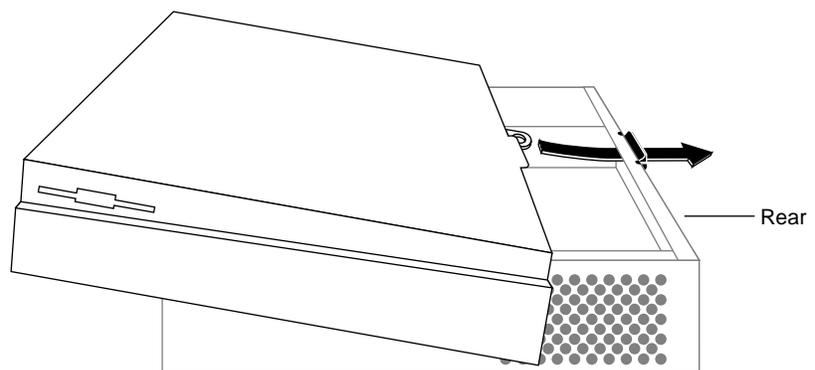

Figure 1-43 Replacing the top cover on the Indy workstation
1. Facing the front of the system, lower the cover a few inches from its fully closed position, as shown in Figure 1-43.